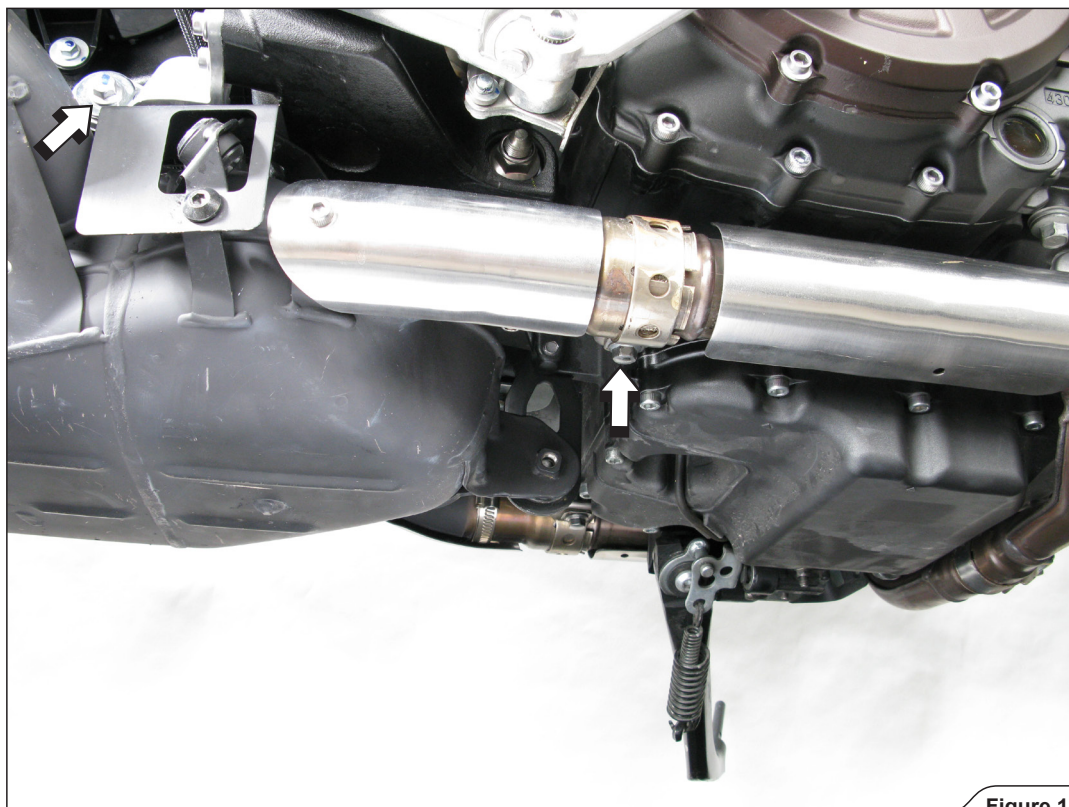

Figure 17
15. **For OPEN SLIP-ON only:** untighten the metal clamp at the catalytic converter box - header tube joint and unscrew the marked bolt from chassis hanging bracket of the catalytic converter box (**Figure 17**).